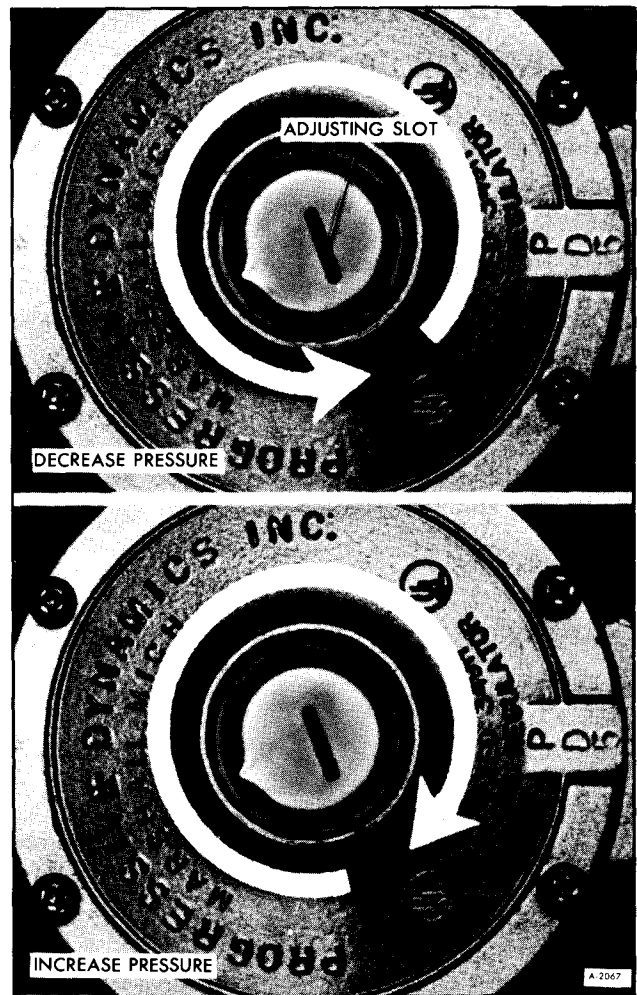

Figure 7—Regulator Adjustment
2. Turn the adjusting slot clockwise to increase the pressure and counter-clockwise to decrease the pressure (See figure 7).